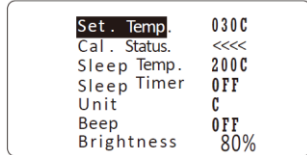

Fig.7
3.3. When Cal. status display "<<<<" (see Fig 7.) , it means "Real Temp." has calibrated and decrease temperature.